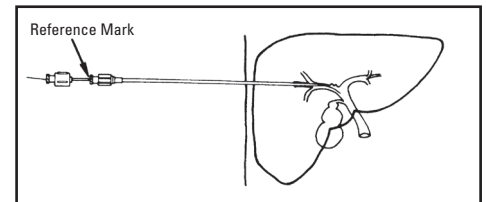

Figure 2.
5. For optimum placement the sheath (blue hub) may be advanced over dilator/cannula until distal tips are aligned. Alignment is indicated when reference mark on dilator is even with proximal hub of sheath. See Figure 2.